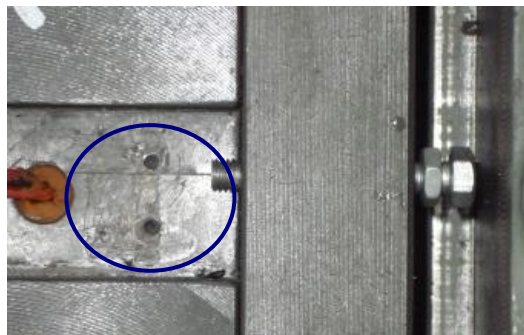

Figure 26: Clean surfaces
1. Clean the brake switch and brake body mating surfaces. See Figure 26.